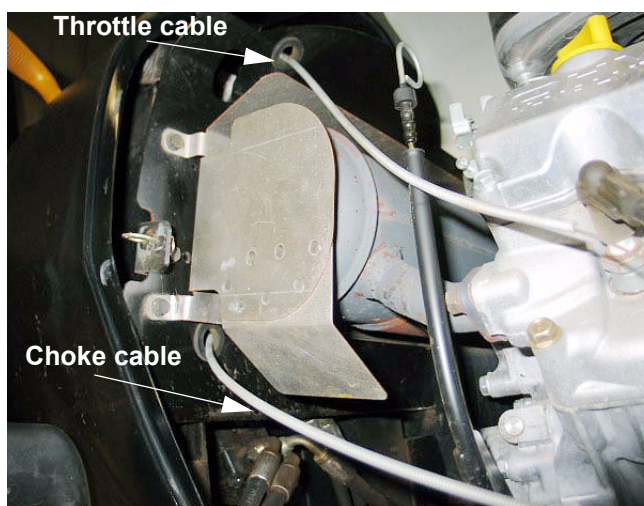

Figure 1.24
- 1.24. The choke cable then passes through the grommeted hole at the lower right corner of the lower heat shield. See Figure 1.24.